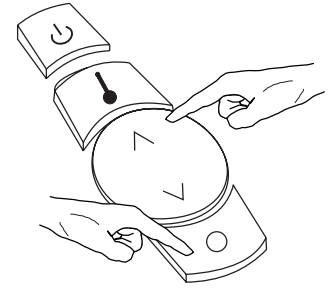

Figure 17
enter the program menu until the timer symbol **PROGRAM** appears on the display. **See Figure 17.**
2. You can now use the up and down button to select one of ten preset weekly programs in the remote control. **See Figure 17** Refer to Table 1 to choose the program that best suits your home's heating requirements and select its number on the remote control.
the program menu. **See Figure 17.** The CLOCK symbol  remains displayed in outline on the remote control screen. When the outlined clock symbol is displayed, a program is active and the unit will be started up and shut down at set times ever day of the week.